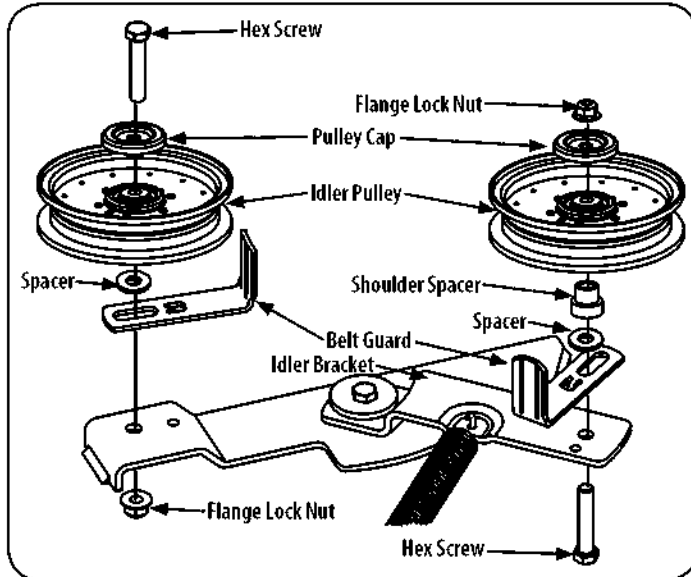

Figure 36
3. Remove the movable idler pulleys and belt guard on the left pulley by removing the hex screws, pulley cap and flange lock nuts that secure them the idler arm and deck. See Figure 36. Do not lose any of the hardware when removing the hex screw, belt guard, pulley cap, spacer, shoulder spacer and flange lock nut.
6. Place the belt around the idler pulleys removed in step 3 with the "V" side facing in. Once in place, reinstall all the hardware and tighten the flange lock nut to secure the assembly. See Figure 36.
7. Route the belt as shown in Figure 36 and then reinstall the deck (refer to Deck Installation).